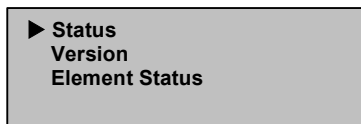

Figure 63: Select Status
5. On the autoloader Info submenu, scroll to Version. (See Figure 63.)
5. On the autoloader Info submenu, scroll to Element Status. (See Figure 63.)
5. On the Drive Info submenu, scroll to Status. (See Figure 63.)